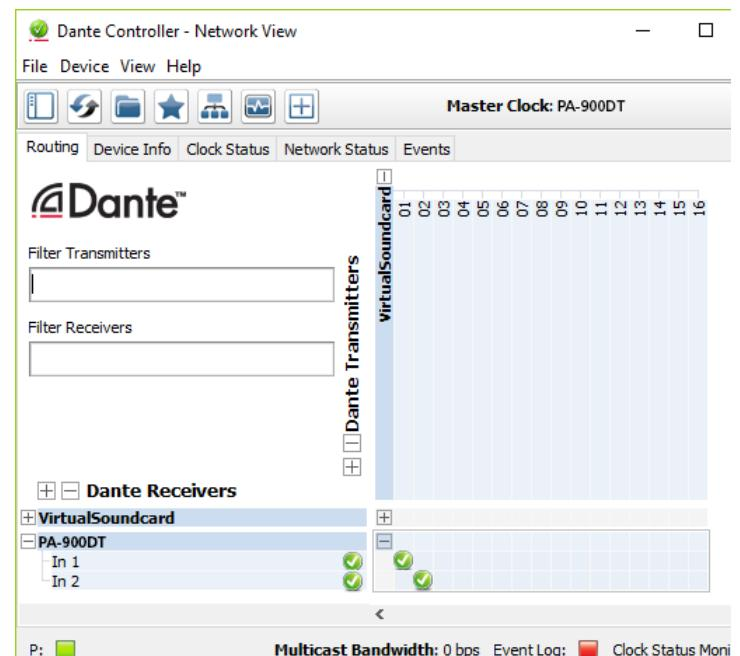

Fig. 9 Routing from the audio source "VirtualSoundcard" to the receiver "PA-900DT"
- 1) Under "Routing" in the window "Network View", click田 to open the channels of the desired Dante transmitter under "Dante Transmitters" and the channels of PA-900DT under "Dante Receivers" (refer to fig. 9).